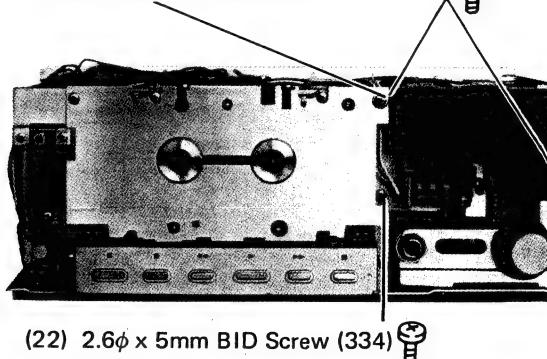

Figure 27.
2. Next, remove two screws (23) as shown in Figure 27, and light emitting diodes can be replaced.
(21) 2.6φ x 5mm BID Screw (341)